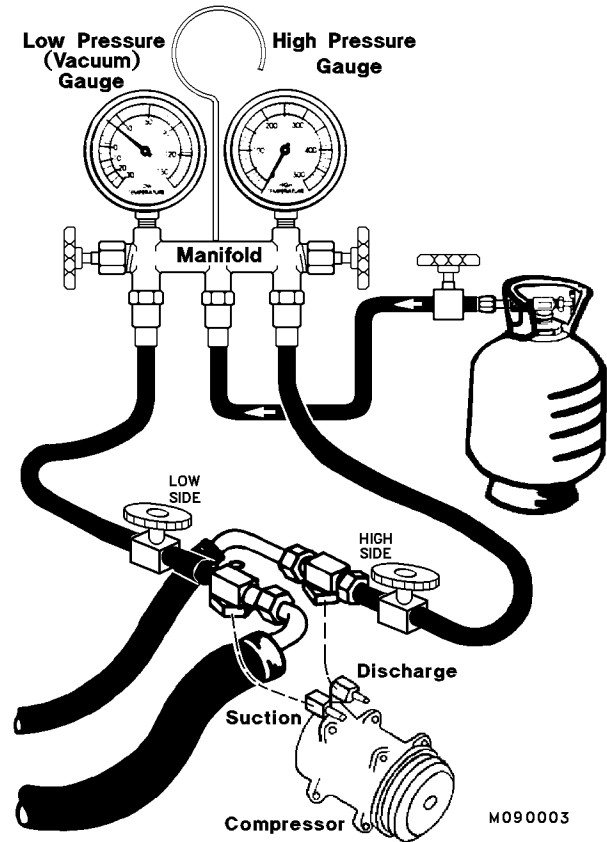

FIGURE 9-8. SERVICE HOSE HOOK-UP
4. Connect the two service hoses from the manifold to the correct service valves on the compressor as shown in Figure 9-8. (High side to compressor discharge valve and low side to compressor suction side.) Do not open service valves at this time.